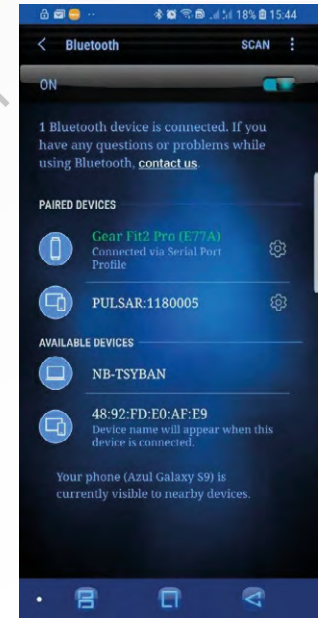

Fig. 3.3 Bluetooth pairing: step 3
4. The device will be paired and shown in the "Paired devices" section (Fig. 3.3).